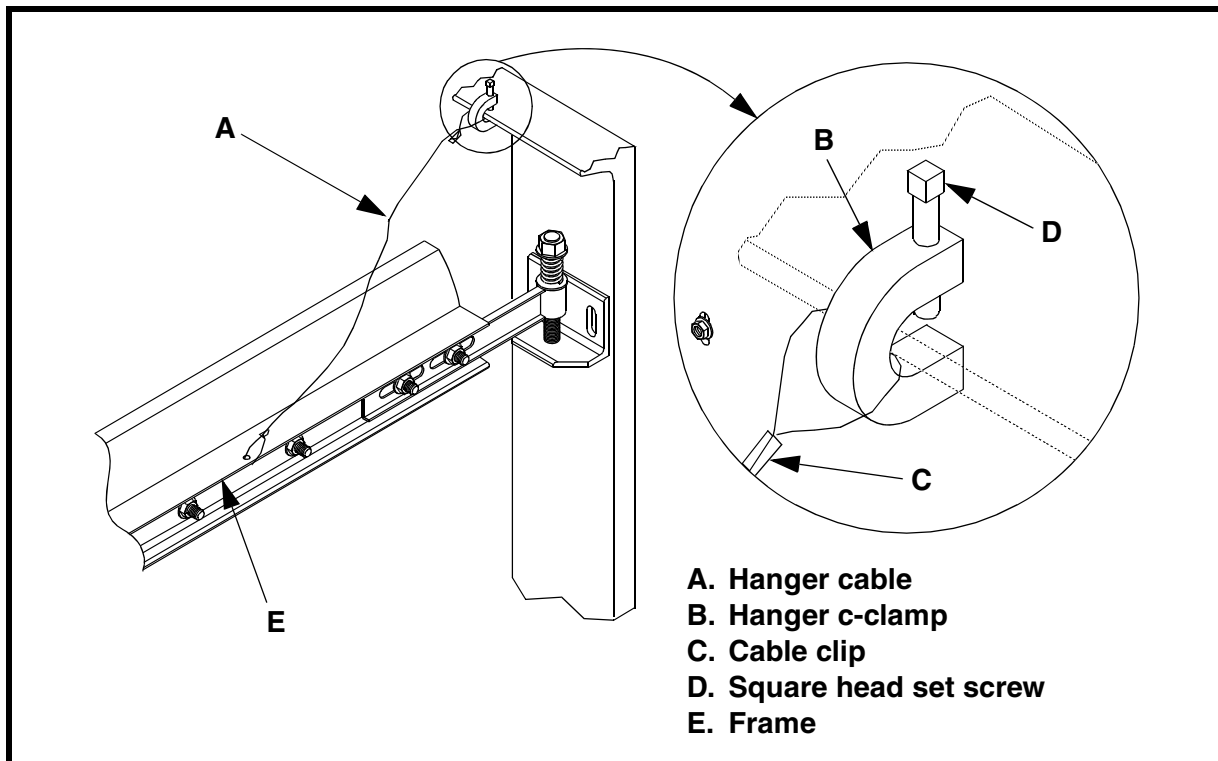

Figure 4. Installing Restraining Cable
1. Loop one end of hanger cable (A, Figure 4) through hanger c-clamp (B) and secure with cable clip (C).